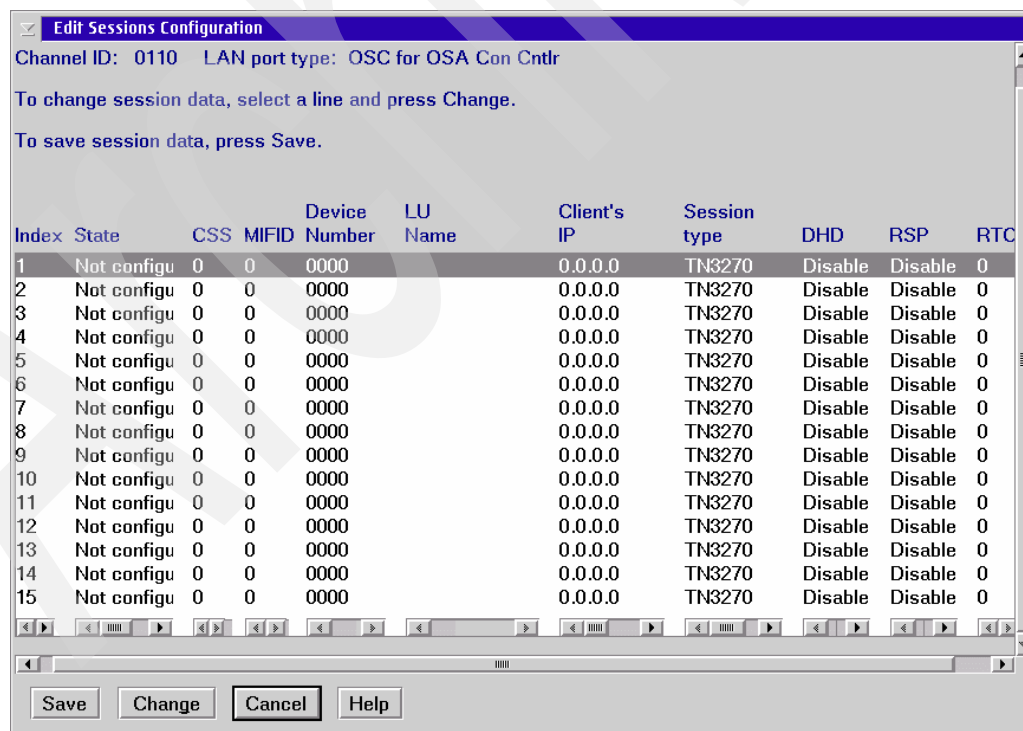

Figure 3-8 Edit sessions configuration
1. Starting with the Panel Configuration Options panel, click **Edit sessions configuration**, and click **OK**. The Edit Sessions Configuration panel is displayed (see Figure 3-8).